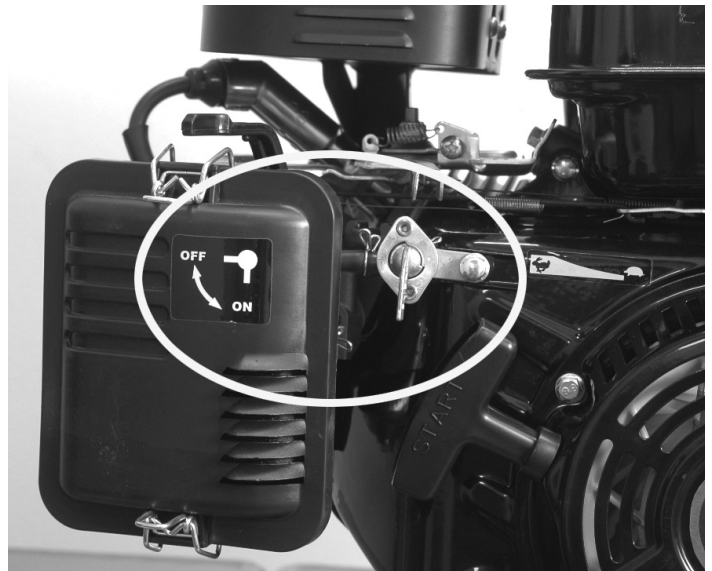

Figure 13: Fuel shut-off valve in the ON position.
1. Shut fuel off by closing fuel shutoff valve. Failure to turn fuel off may cause raw fuel to enter the crank case contaminating the engine oil and providing insufficient lubrication. **SEVERE ENGINE DAMAGE MAY RESULT. SEE FIGURE 13.**